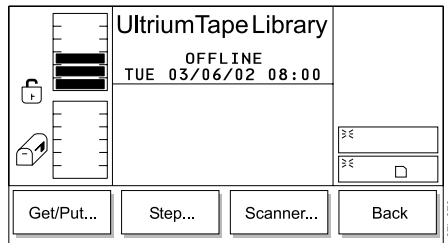

Figure 272. Fingers Submenu
5. Press the button below the **Fingers** softkey. The Fingers Submenu displays (see Figure 272).